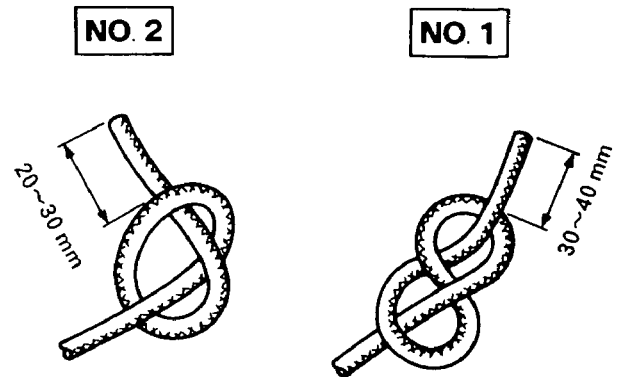

FIG. 82
- (1) First, have the starter rope pass through the starting knob, and tie the rope as shown in Fig.82 No.1.
Then, have the opposite side of the rope pass through the starter case and the reel, and tie it as shown in Fig. 82 No.2. Then surely house the end in the reel. (In the Fig.82 both the ropes are tied quite lightly, as you see in figures No.1 and No.2. Please note this is just for the purpose of easy understanding. Therefore, when actually tying, tie the rope as tightly as possible.